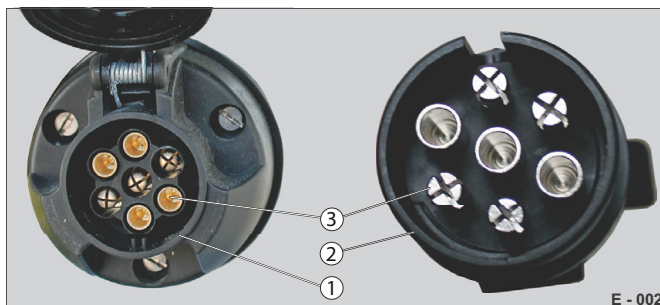
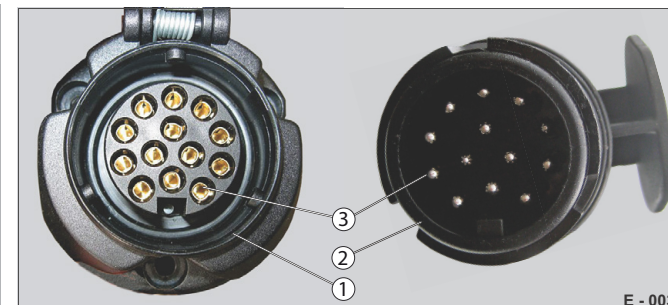
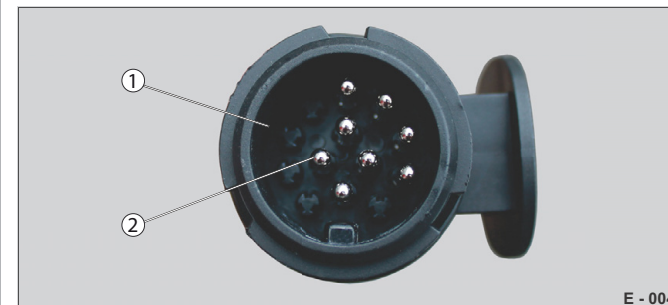

Fig. 2 7-pin plug (only STEELY)
Fig. 3 13-pin plug
Fig. 4 Plug with 8 pins configured
- Maintain the contacts (Fig. 2 /3, Fig. 3 /3) in the plug connections with contact spray if applicable.
- Connect the plug (Fig. 2 /2) on the trailer to the socket (Fig. 2 /1) on the towing vehicle. Make sure that the cable is not pulled too tightly. The cable needs room to move when cornering.
The 13-pin plug (Fig. 4 /1) with 8 contacts configured is used as standard for braked trailers. The fully configured 13-pin plug (Fig. 3 /2) is used on vehicles with a battery for electrical hydraulics.
- If applicable, check the contact configuration (Fig. 4 /2) on the towing vehicle.